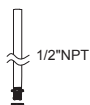

Figure 8
Step 1. Unscrew the nuts on 1/2" NPT. (Figure 8)